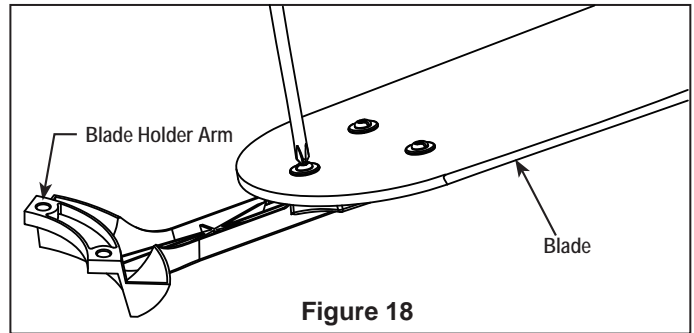

Figure 18
1. Position the blade over the blade holder with threaded posts showing. Make sure the bottom edge of the blade is fully seated against the blade arm. With a phillips screwdriver, tighten 3/16-24 x 8 mm washer head screws and fiber washers to secure the blade to the blade arm. (Figure 18)